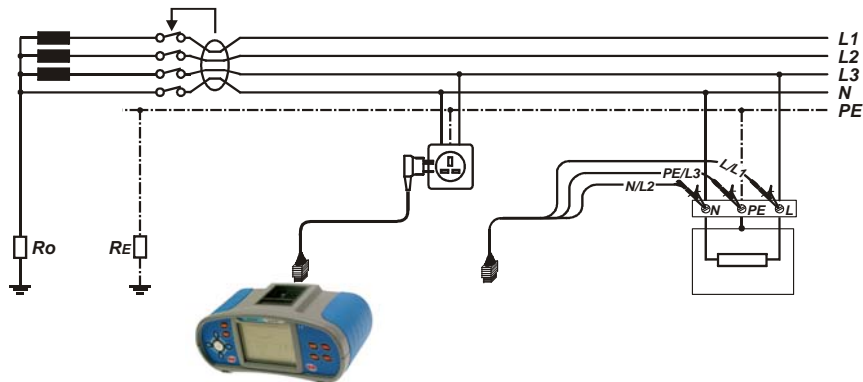

Figure 5.30: Connecting the plug cable and the universal test cable
- Connect** test leads to the tested object (see *figure 5.30*).
- ❑ **Connect** test leads to the tested object (see figure 5.30).
- ❑ **Connect** test leads to the tested object (see *figure 5.30*).
<ul style="list-style-type: none"> ❑ Select the RCD function. ❑ Set sub-function AUTO. ❑ Set test parameters (if necessary). ❑ Connect test cable to the instrument. ❑ Connect test leads to the tested object (see figure 5.30). ❑ Press the TEST key. 	Start of test